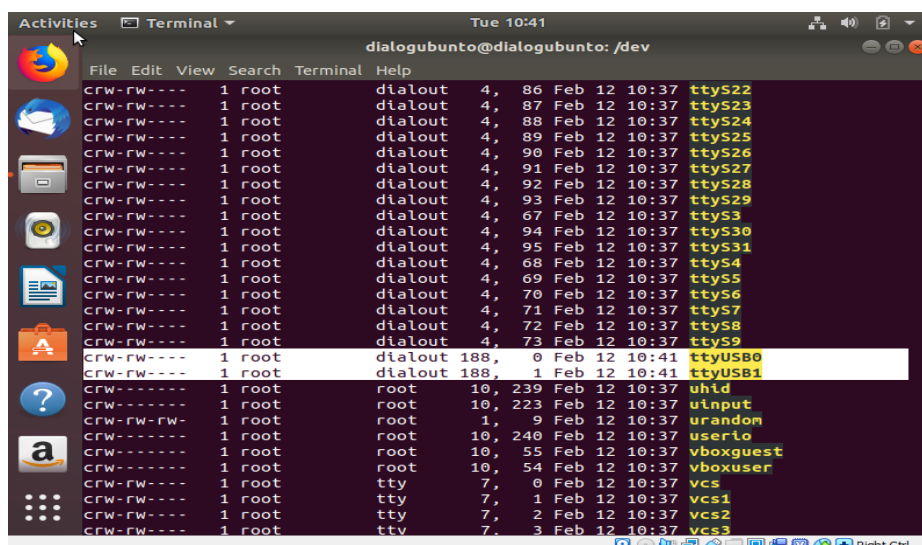
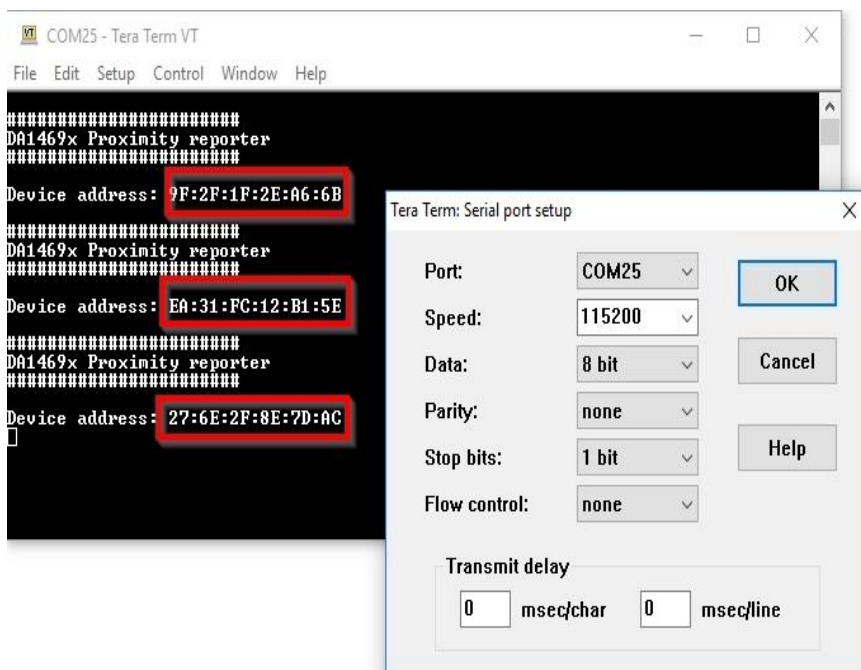

Figure 9: Ports assigned to ProDK
Figure 10: Terminal output via Tera Term (Windows)
When ProDK is connected to a host PC running a Linux distribution (such as Ubuntu or CentOS) and has Internet connectivity, the system will detect several devices and all necessary drivers will be silently installed. Provided that the process has properly finished, two additional devices will appear in the /dev directory under the names `tttyUSB0` and `tttyUSB1`, as shown in **Figure 9**. These names might be different in case other serial converters are connected to the system beforehand. If no other serial port converters are connected, the device that should be used with the terminal or programmer utility will be called `/dev/tttyUSB0`. If there are more devices with the name `tttyUSBx`, note which ones showed up when the ProDK was connected and use the lower number of the two devices.
- **Step 5** Select Setup > Serial Port a as shown in Figure 10 and configure your UART port using the parameters as shown in **Table 4**.
- **Step 6** Open the the Lowest COM port number assigned to the ProDK, refer to **Figure 9** to figure out which port number is used by Windows by running the Windows Device Manager. Make sure that the UART is configured as shown in **Table 4**. Once you have a connection, you should start to see something as shown in **Figure 10**. The DA1496X device use random BLE addresses, new address is generated on every reset button push.